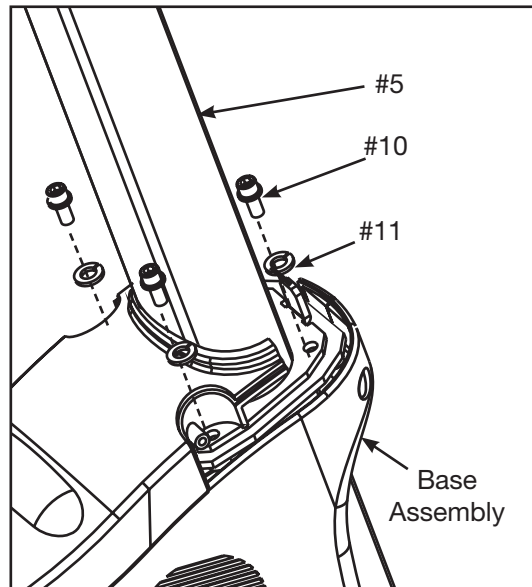

Figure 6
- D. Lower the upright tube (#4) over the upper display cable and hold it steady in the correct position on the base assembly. See Figure 6.
- E. Using a 1/4" Allen wrench (#15), attach the upright tube (#4) with the four screws 5-16-18 x .75 (#9) and four washers 5-16" (#10). See Figure 6.